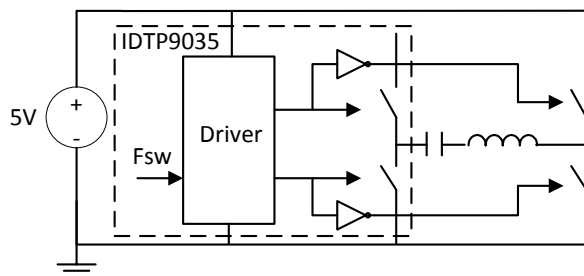
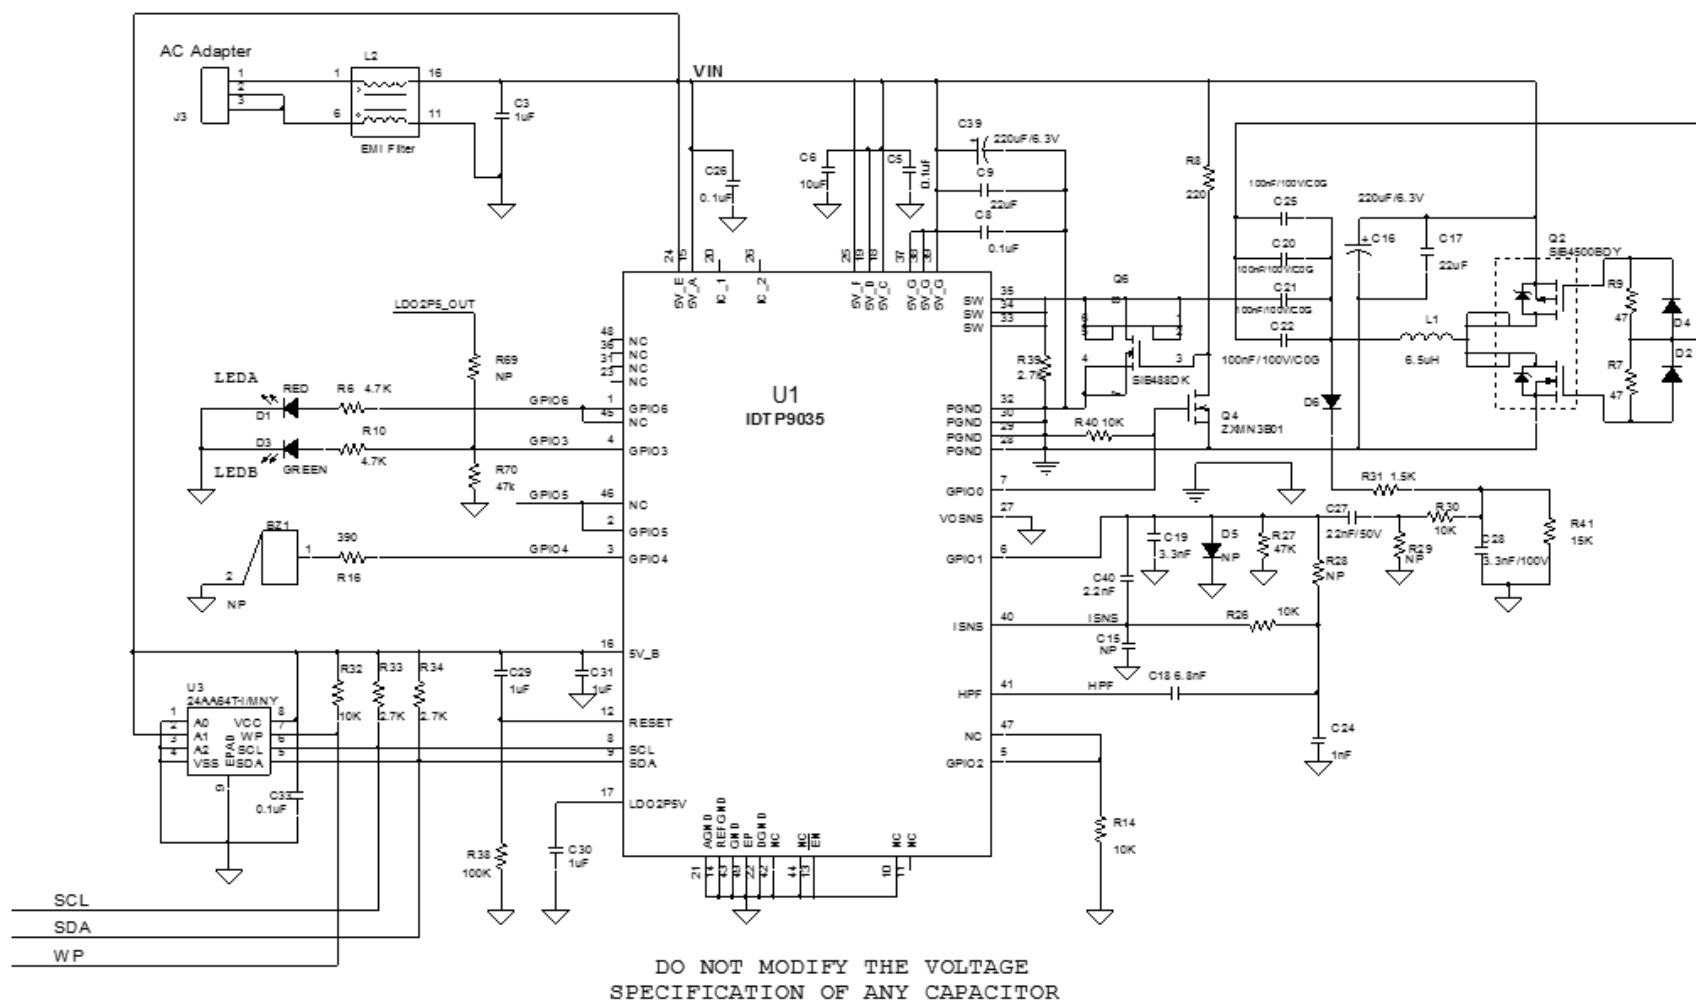

Figure 7. Full-Bridge inverter TX Coil Driver.
Figure 9. IDTP9035 WPC "Qi" Compliance Schematic (See IDTP9035 Evaluation Kit User Manual for complete details)
The Driver Control block contains the logic, shoot-through protection, and gate drivers for the on-chip power FETs and external FETs. The on-chip and external FETs are configured as a full-bridge power inverter, effectively doubling the peak-to-peak voltage applied to the coil. The frequency of the full-bridge output waveform is set by the MCU. (For details, please refer to the simplified application diagram (Figure 1) and the reference design schematic (Figure 9)).
The recommended applications schematic diagram is shown in Figure 9. The IDTP9035 operates with a 5V_{DC} (±0.25V) input. The switching frequency varies from 110kHz to 205kHz. At the 205kHz limit the duty cycle is also changed to adjust the power transfer level. The power transfer is controlled via changes in the switching frequency and duty cycle. The base or TX-side has a series resonance circuit made of a WPC Type-A5 or A11 coil (~6.3μH) and a series resonant capacitor (~400nF) driven by a full-bridge inverter, as shown in Figure 7.
10). A complete design schematic compliant to the WPC “Qi” standard is given in Figure 9. It includes WPC “Qi” LED and buzzer signaling.